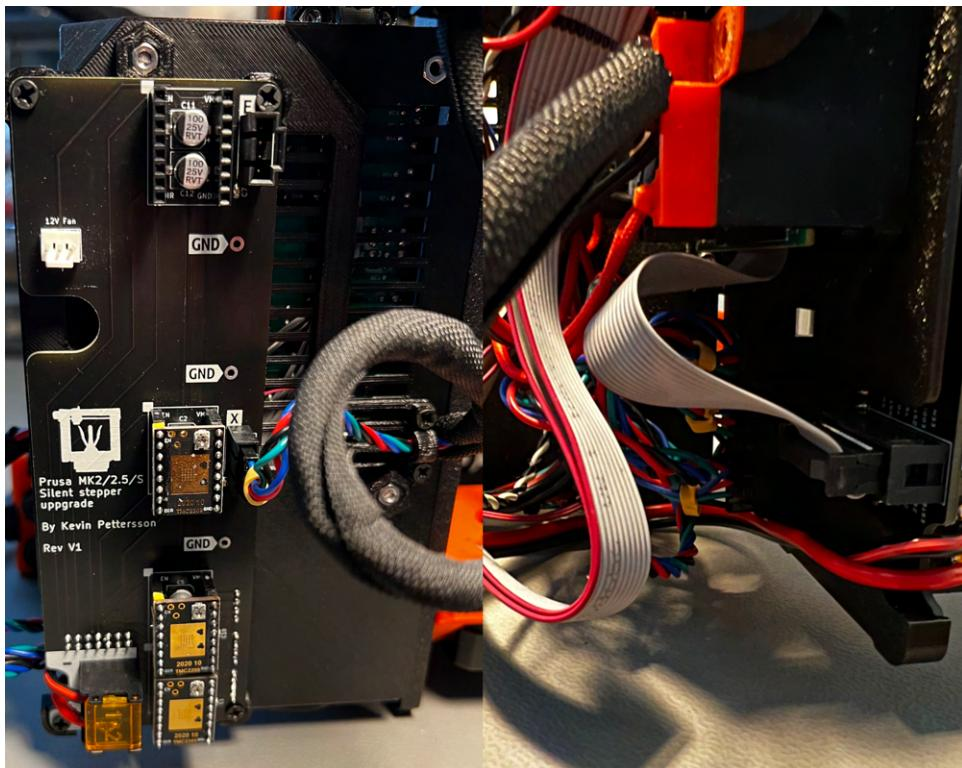

Figure 13: View of front and back of **XYZE** upgrade board for X, Y and Z installation, NOTE depicted image is of V1. V1.1 looks slightly different.
You can now mount the upgrade board with 4 of the included threaded screws. You can then install the power cable in the correct orientation, motor cables, data cable, X-axis strain relief and stepper drivers. I suggest installing the drivers without heat-sink as it will be easier to adjust the vref later. The result at this stage should look like Figure 13.
5. Lastly, add the cable to the cable sleeve and connect it to the LED port located next to the X-axis motor connector, as depicted in Figure 13. Please note that you should use the larger strain relief holder on the upgrade board and double check that the red wire is towards the + sign on the board.